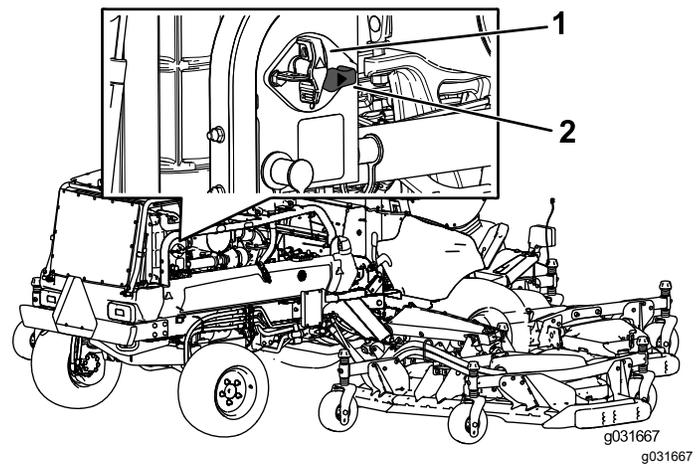

Figure 80
- To energize the machine electrically, rotate the battery-disconnect switch clockwise to the ON position (Figure 80).
- To de-energize the machine electrically, rotate the battery-disconnect switch counterclockwise to the OFF position (Figure 80).